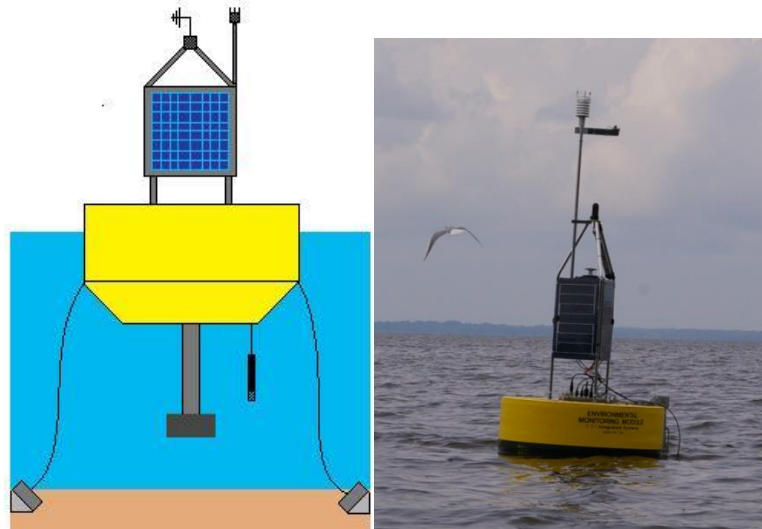

Figure 3. Surface automated monitoring system.
- **Surface** – this is the most common design, being relatively simple to procure and deploy (Fig. 3). Most surface AMS are based on the idea of a large float, anchored in two or more places (Fig. 6).